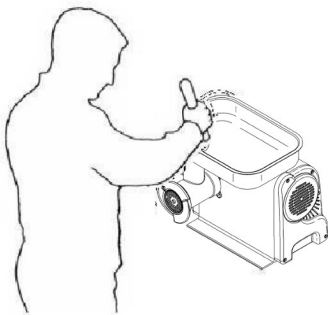

FIG no. 7—Correct position
- Position yourself in an appropriate position in front of the machine (*see FIG. no. 7*);